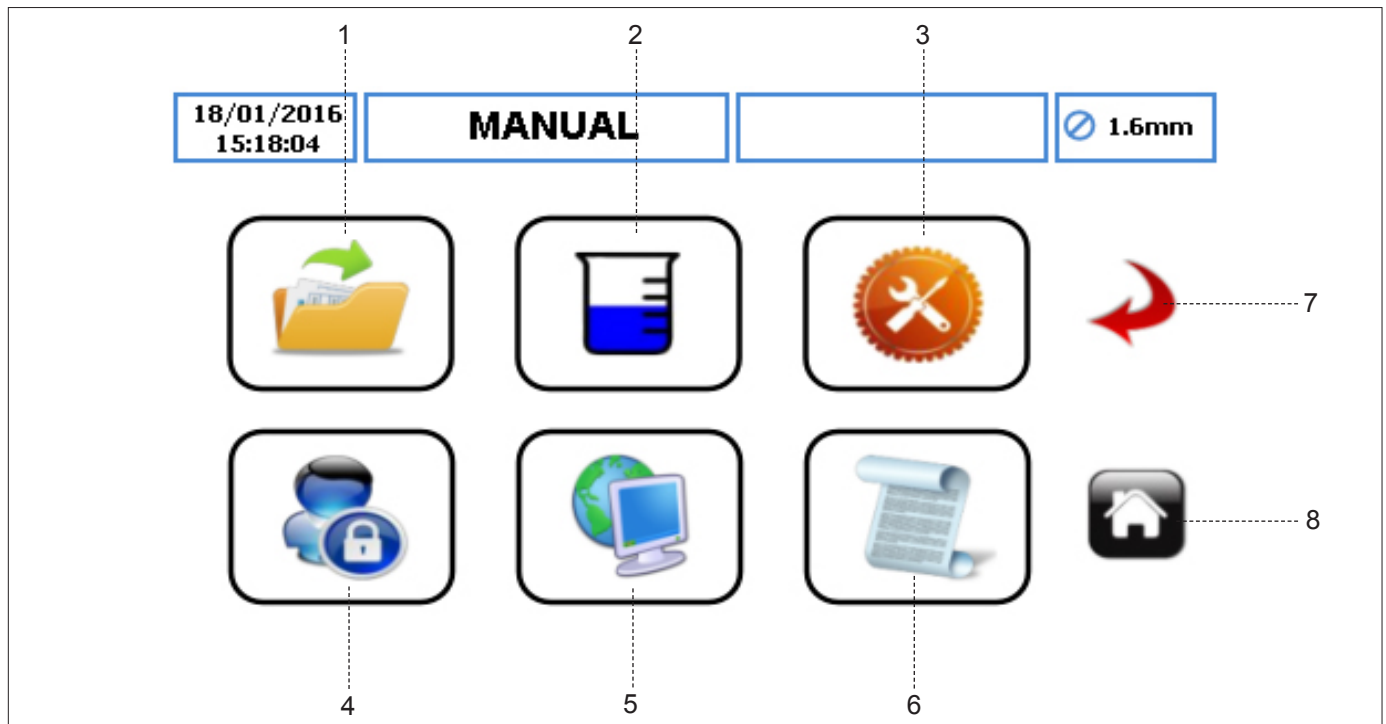

Figure 25 Main Menu
To access the Job File Menu, touch the icon  as indicated in *Figure 25*, item 1.
To edit the Job File, select it and touch the icon  as indicated in *Figure 25*, item 5.